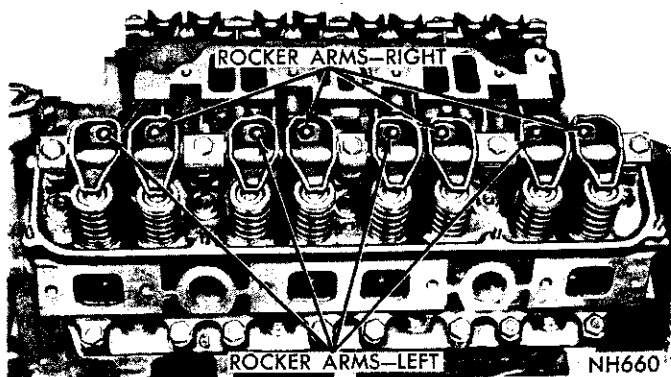

Fig. 4—Rocker Arm Assemblies Installed
(1) Remove cylinder head cover and gasket.
(2) Remove rocker shaft bolts and retainers and remove rocker arms and shaft assembly.
(3) If rocker arm assemblies have been disassembled for cleaning, inspection, or replacement, refer to Figure 4 for proper reassembly.
(7) Install rocker arm and shaft assembly starting each push rod into its respective rocker arm socket (Fig. 4) making sure to install the long stamped steel retainers in the number two and four positions. Tighten bolts to 25 foot-pounds.
(8) Place new cylinder head gasket in position and install cylinder head covers. Tighten nuts to 40 inch-pounds.
(9) Install exhaust manifolds and tighten nuts to 30 foot-pounds.
(10) Adjust spark plugs to .035 inch gap and install plugs, tighten plugs to 30 foot-pounds.
(11) Install a new tappet chamber cover and tighten end bolts to 9 foot-pounds.
(12) Install intake manifold, carburetor and ignition coil as an assembly and tighten manifold bolts to 40 foot-pounds.
(13) Install distributor cap. Connect the coil wire, heat indicator sending unit wire, accelerator linkage, spark plug cables and insulators.
(14) Install vacuum control hose at carburetor and distributor.
(15) Install closed ventilation system and evaporative control system (if so equipped).
(16) Install alternator and drive belts. Tighten alternator adjusting strap bolt to 200 inch-pounds, and alternator mounting bolt to 30 foot-pounds.
(17) Install fuel line and carburetor air cleaner.